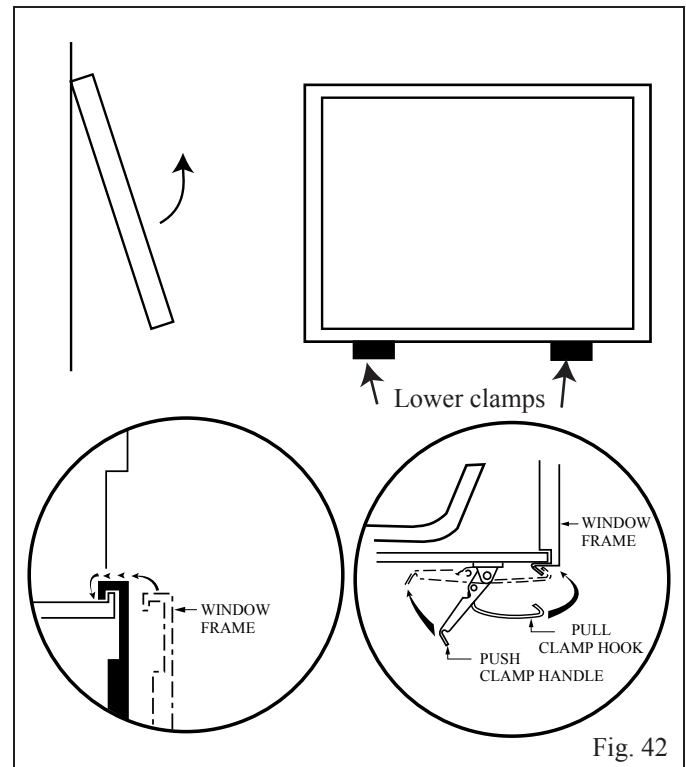

Fig. 42
5. Release the two clamps securing the lower edge of the frame by pulling down on the handles, Fig. 42.